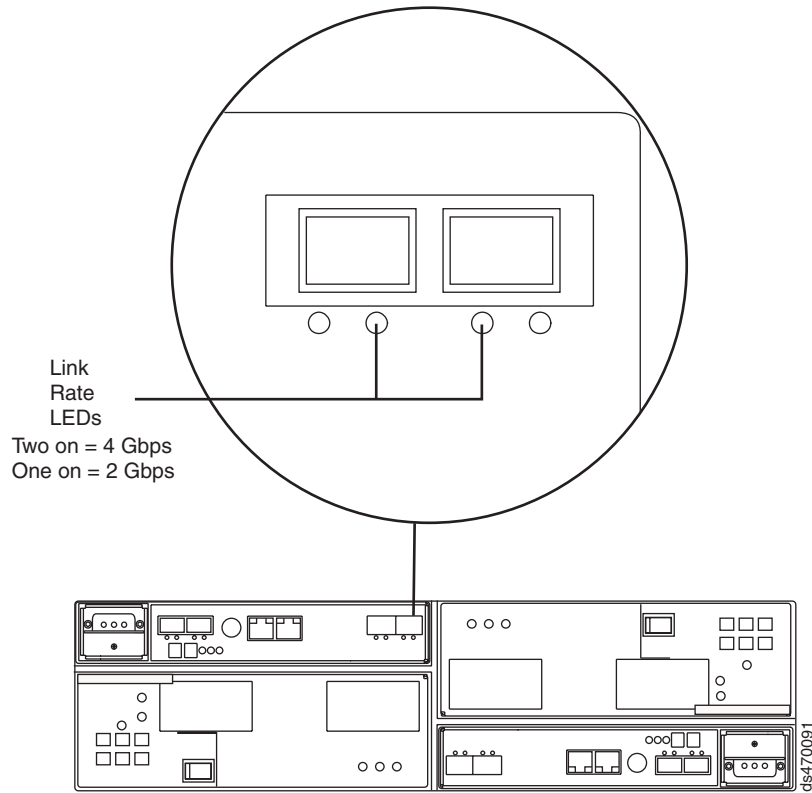

Figure 111. Link rate LEDs
2. Locate the Link Rate indicator LEDs. Figure 111 on page 161 shows the location of the Link Rate indicator lights on the back of the storage subsystem.